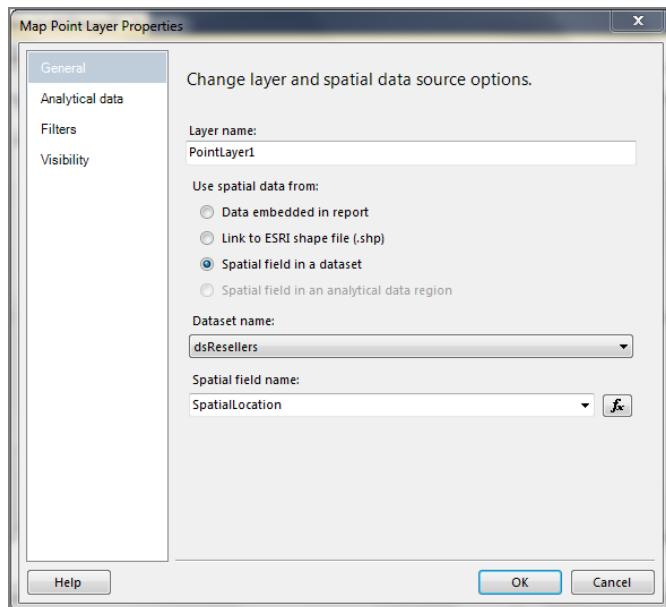

Figure 10-15
7. Using the drop-down arrow on the `PointLayer1`, select Layer Data. Map the `dsReseller` dataset to the new Point Layer, as shown in Figure 10-15.